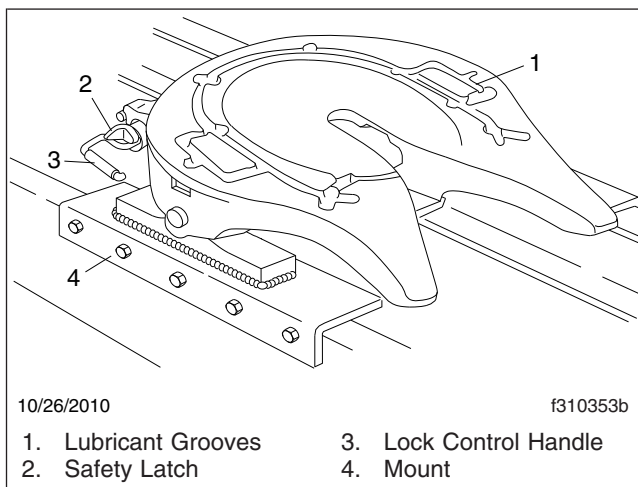

Fig. 1, Simplex Series Fifth Wheel
4. When the wheel is locked, the safety latch must swing free and fall freely into position. See **Fig. 1**.